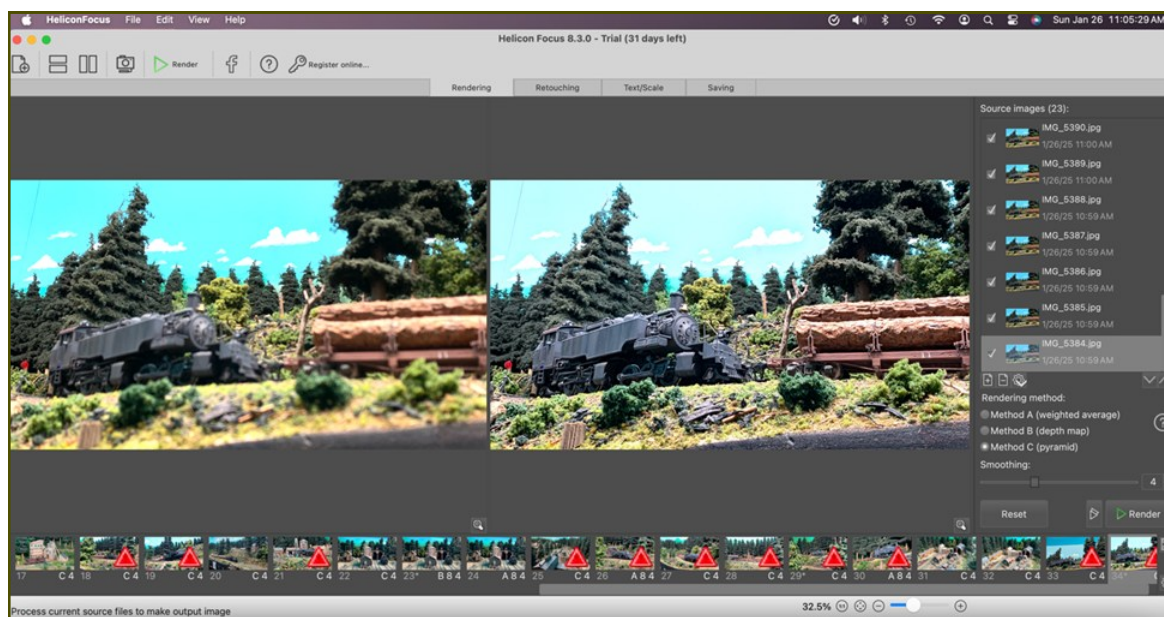

Figure 5 Rendering Complete
- After the “Render” button is clicked, the screen will show one of the original images next to the final rendered image with everything in focus. Reference Figure 5.